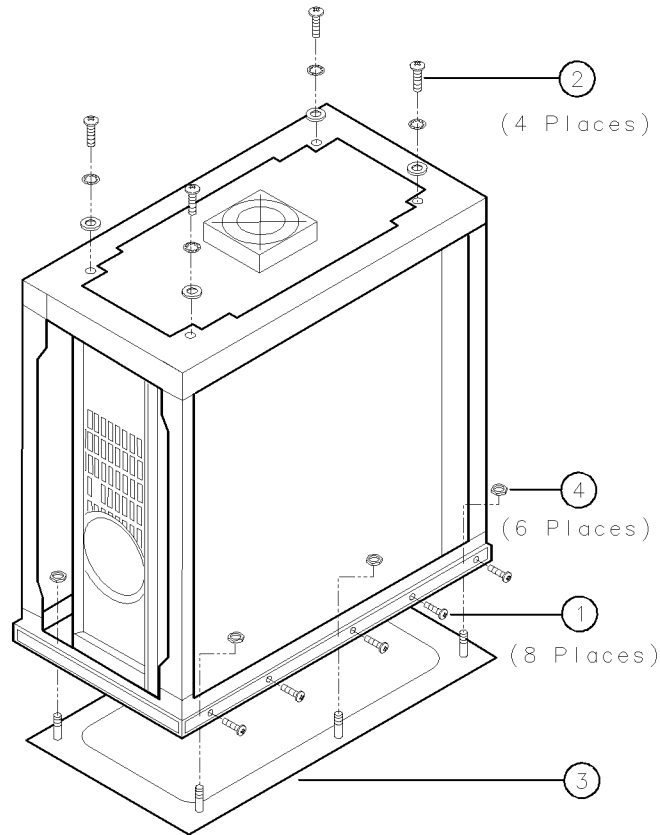

Figure 3. Attaching the Rack Frame to the Instrument
11. Place the rack frame over the instrument as illustrated in Figure 3. The rack front frame should have a deeper groove on the bottom side.
12. Attach the rack frame to the front support using eight M3.5 8 mm flat-head screws ①. See Figure 3.
13. Attach the rack frame to the rear of the instrument using four M5 12-mm socket head cap screws, lock washers, and flat washers. Use the hex key to torque to 50 inch-pounds. See ② in Figure 3.
14. Tip assembly on one side. Install the dress panel ③, and secure it with six nuts ④. Use a 7-mm driver. Torque to 6 inch-pounds maximum. *Do not* overtorque.